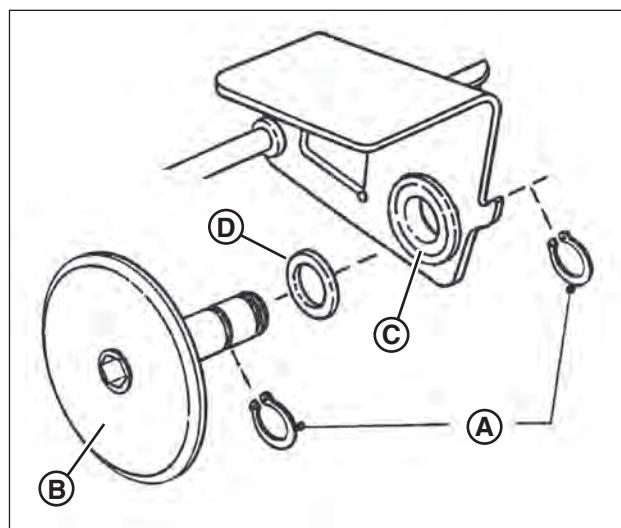

Figure 31: Replacing the driven disc
3. Remove the two snap rings (**A**, **Figure 31**) which secure the rubber driven disc (**B**) to the driven disc assembly.
2. Remove both snap rings (**A**, **Figure 31**) that secure the rubber driven disc (**B**) to the thrust plate.